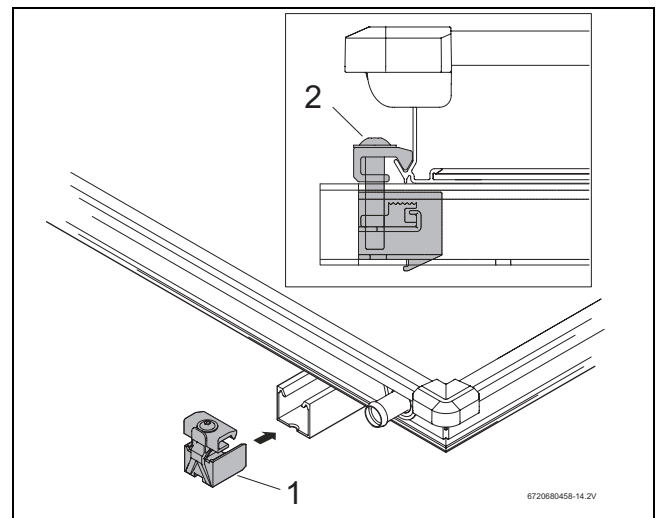

Fig. 44 Side collector tensioner on the left
- ▶ Push the side collector tensioner (Fig. 44, [1]) into the ends of the upper and lower profile rails.
- ▶ Push the collector tensioner up against the collector frame and secure in place with a size 5 spanner (Fig. 44, [2]).